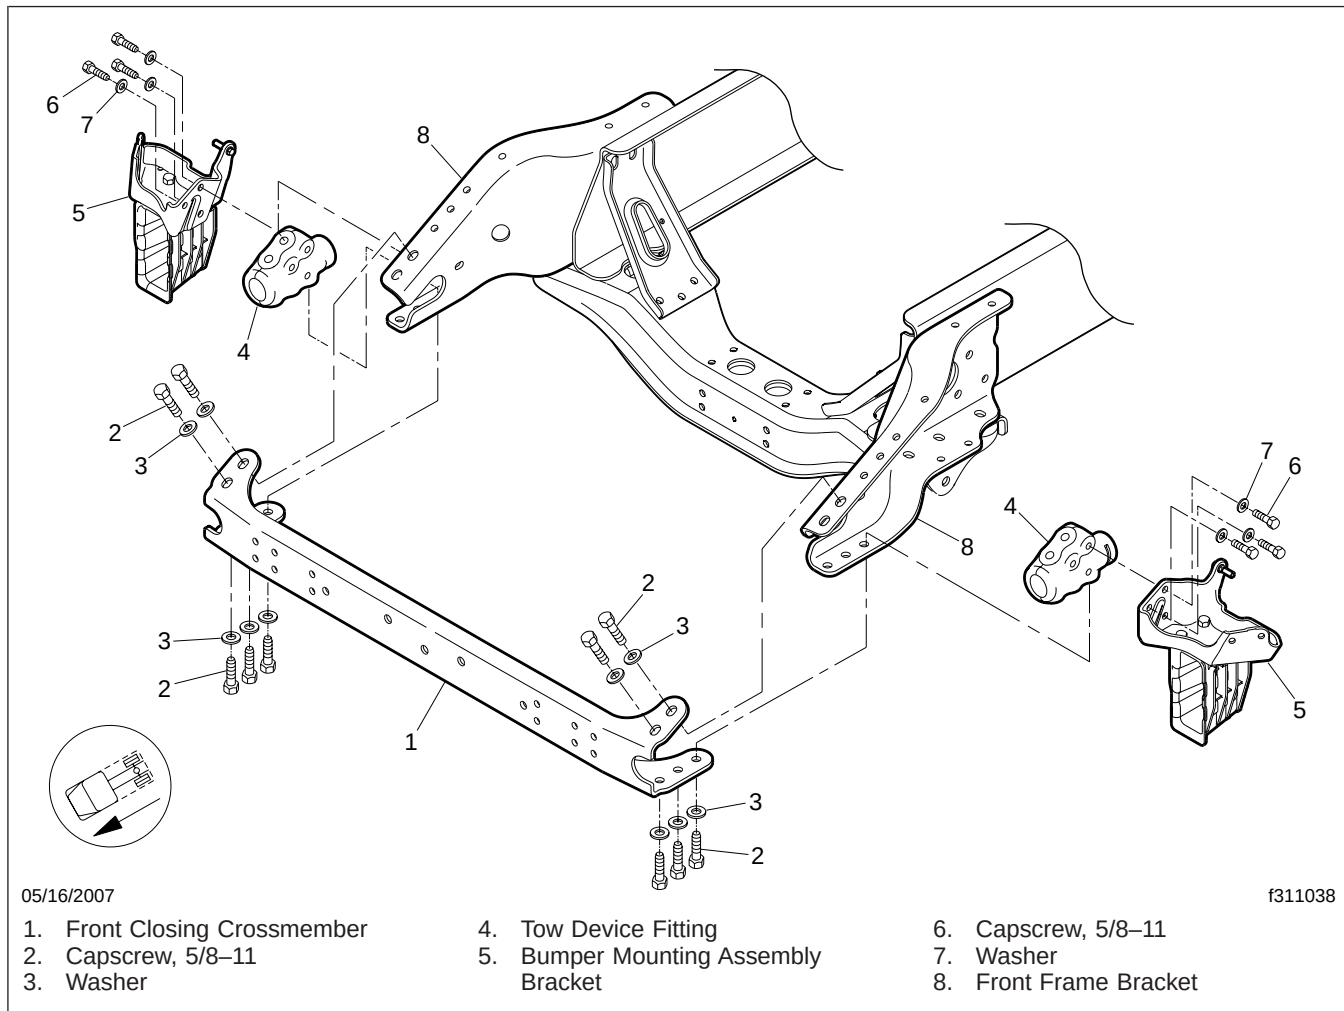

Fig. 1, Front Closing Crossmember
10. Remove the capscrews that attach the front frame bracket to the frame rail and suspension. Remove the frame brackets. See Fig. 1.